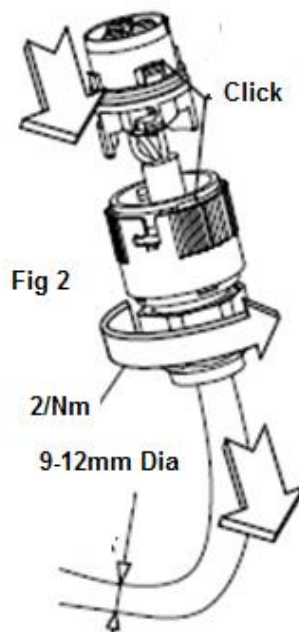

Fig 2
3. Tighten the IP66 seal round the cable and push the connector into the grommet housing until it clicks. (Fig 2).